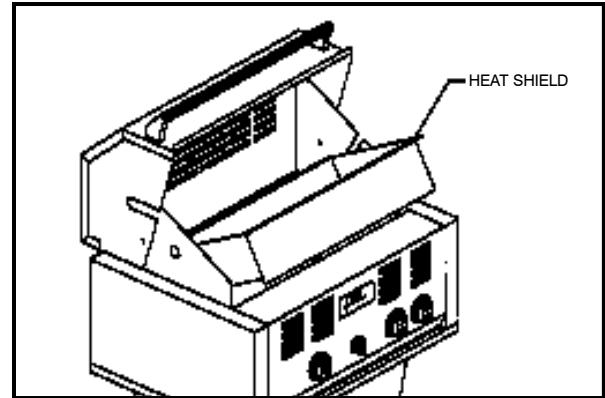

Figure 7. Heat Shield
2. Remove the Heat Shield from the Grill Housing. (See Figure 7.)